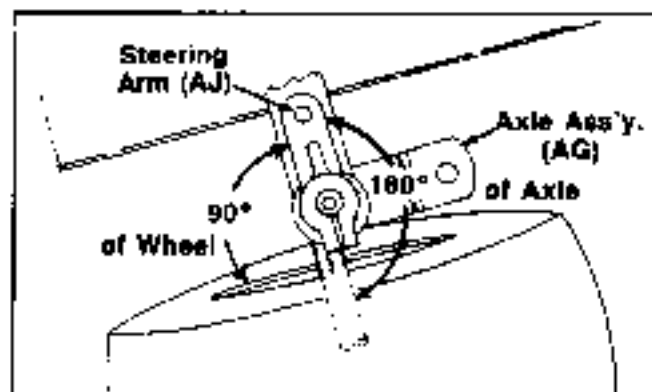

FIGURE 28.
29. Secure the axle assembly to the pivot bar with hex bolt (P) and flat washer (T). See figure 28.